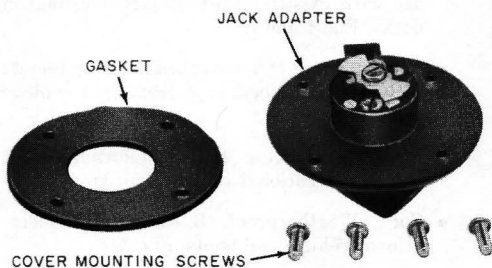

Fig. 1—B Weatherproof Female Jack Adapter
- Adapter, Jack, Female, Weatherproof, B (for use with existing KS-8421 jack housing on docks, Fig. 1 and 2)
2.03 The B weatherproof female jack adapter (Fig. 1 and 2) is mounted on an existing KS-8421 jack housing after the old jack and front plate are removed. It will receive the male plug of the B weatherproof cord to provide service to recreational vehicles or boats. A spring-loaded hinged cover protects the jack from weather when not in use. A rubber boot on the mating connector of the cord provides a weatherproof seal when in use. Three screw terminals stamped T, R, and GR are provided for connection to tip, ring, and ground, respectively. Four mounting screws and a cover gasket are provided.